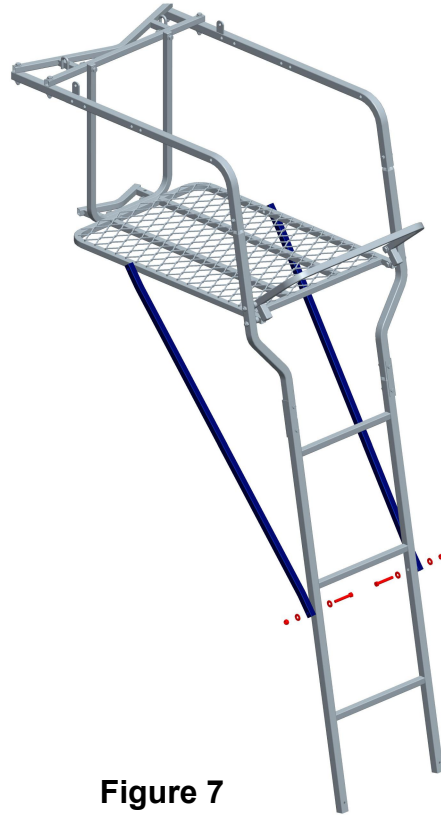

Figure 7
Locate #4 Ladder Section (#13) and two U-Brackets (#19). Slip the crimped end of #4 Ladder Section (#13) into the Ladder Connect Bars (#6) and secure with two U-Brackets (#19) using four (4) M6x40 Bolts, eight (8) Steel Washers and four (4) Locknuts as shown in Figure 7. Securely tighten bolts.
Install one end of Ladder Braces (#9) onto the #4 Ladder Section (#13) using two (2) M8x60 Bolts, four (4) Steel Washers and two (2) Locknuts as shown in Figure 7.